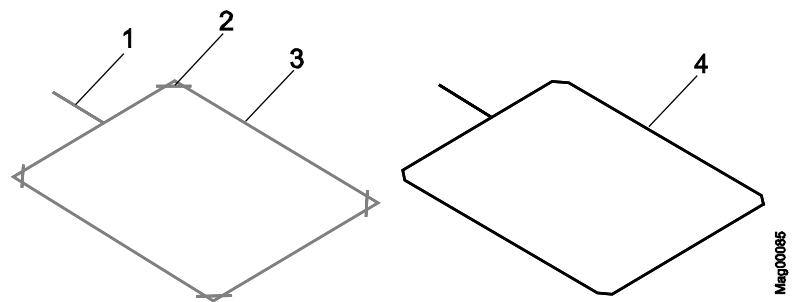

Fig. 20: Installing induction loop in bitumen, asphalt, or concrete
1. Cut a 50 mm deep groove into the surface or asphalt using a cutting disc. The groove must be equally deep at every point. According to Fig. 20 the corners of the groove must be cut in a 45° angle.